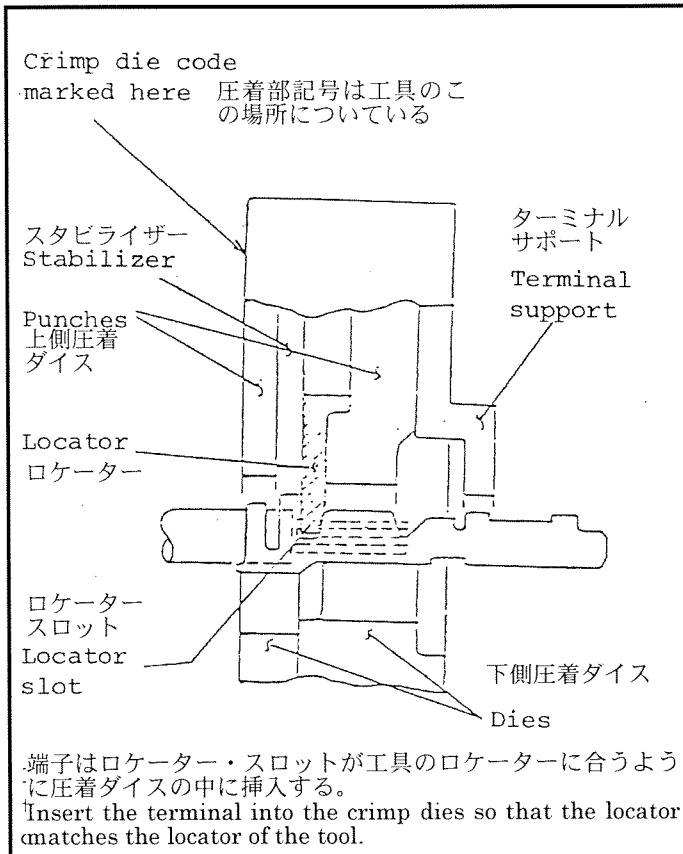

Fig. 3
- (b) Hold the tool so that the side of the tool on which the wire sizes are stamped faces up. Insert the contact into the crimp dies as illustrated in Fig. 3.
(Refer to Fig. 3.)